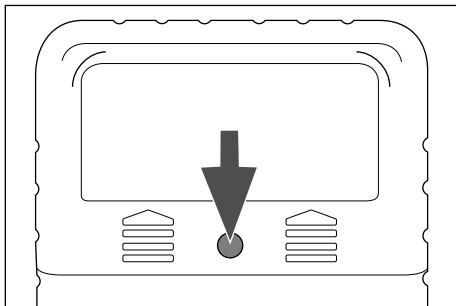

Fig. 1
- 1) Loosen the top screw on the back of the device with the supplied screwdriver **7** (see Fig. 1). Remove the battery cover by sliding it upwards.